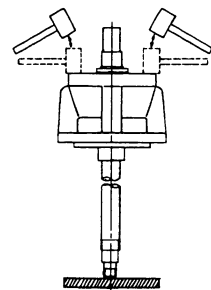

Fig. 4
- (10) Remove fan key ㉔.
- (11) Remove bearing box (outlet side) ④ from fan case (A) ⑤. At this time, shaft ⑫ should come off together with bearing box (outlet side) ④.
- (12) Remove bearing retaining cap ㉓ and cooling fan ⑪.
- (13) Lay a wood-block on the floor and stand shaft ⑫ on top of-it in an upright position. (Fig.4)
- (14) Remove bearing box (outlet side) ④ from bearing ⑩ by tapping outside uniformly with plastic hammer.
- (15) Remove bearing nut ⑮ and bearing washer ⑯.
- (16) Remove bearing ⑩ from the shaft ⑫ using a puller.